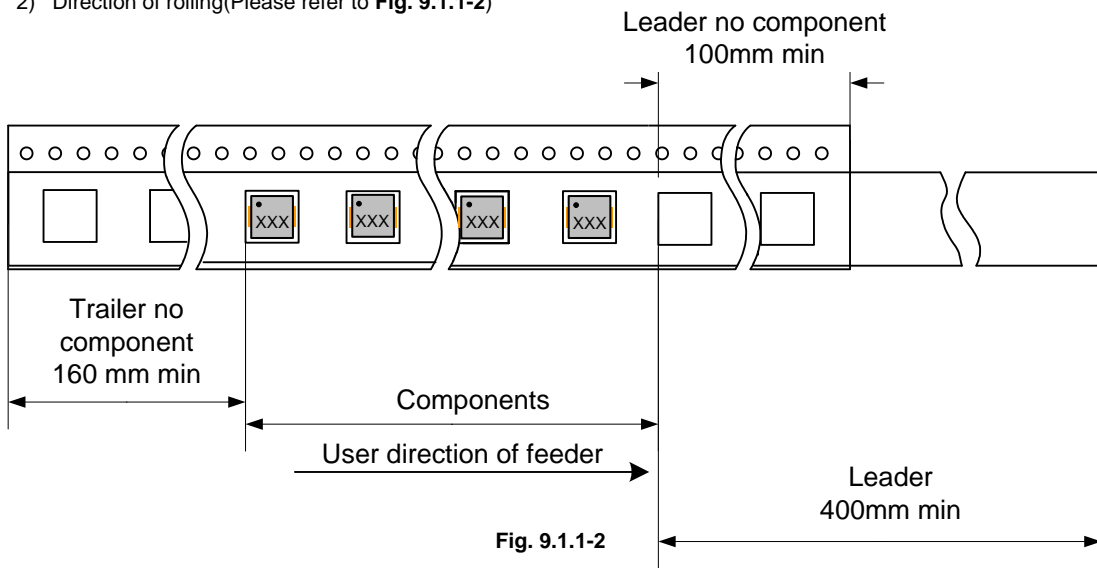

Fig. 9.1.1-2
2) Direction of rolling(Please refer to Fig. 9.1.1-2)